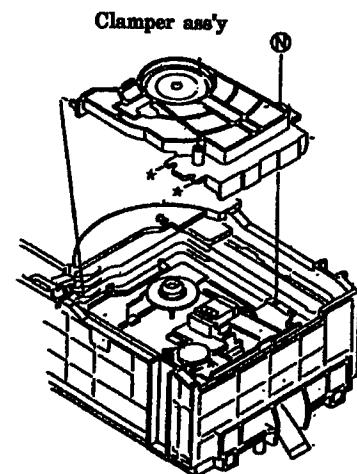

Fig.21
5. Remove a screw ⑤securing center of the clamperass'y. (See Fig. 21)